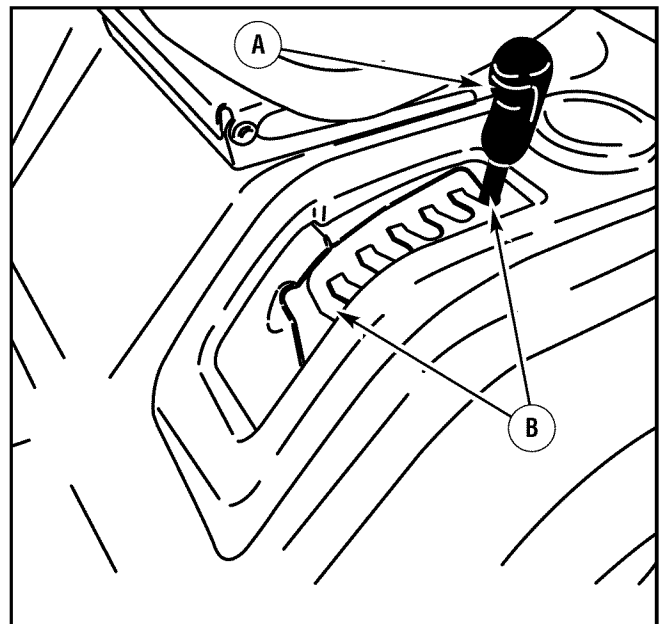

Figure 41: Cutting position
- Raise the deck lift lever from the LEVEL ADJUSTMENT position to a CUTTING HEIGHT position (Figure 41).